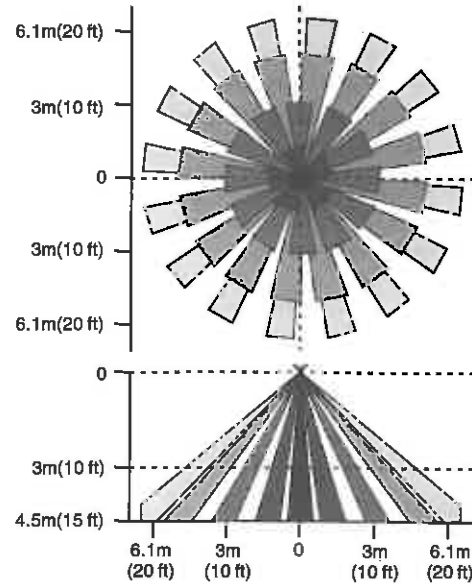

Fig1 Sensor Coverage Area
- 10 to 20ft (3 to 6.10 m) radial coverage overlaps area lit by a typical fixture (refer to Fig1:Sensor Coverage Area)